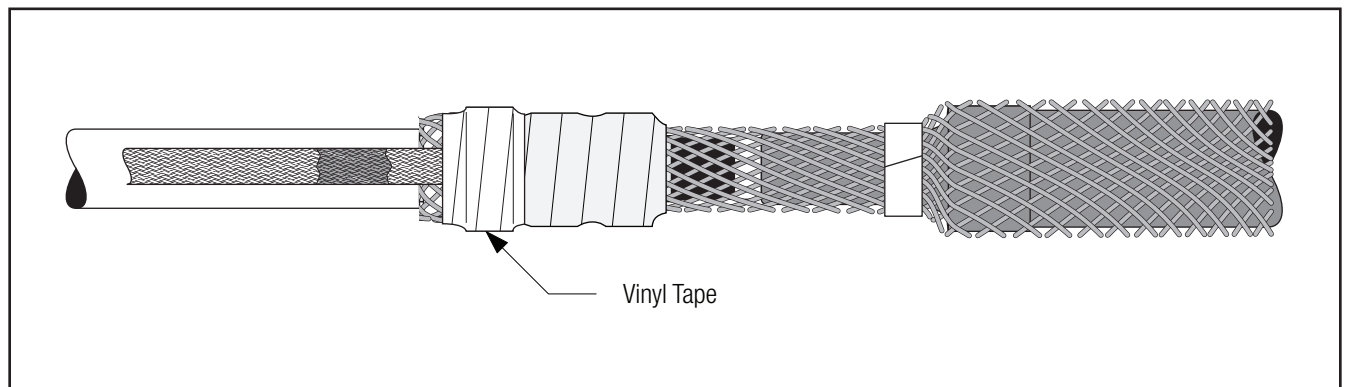

Figure 38
- 7.3 Wrap two layers of stretched vinyl tape over spring (*Figure 38*).